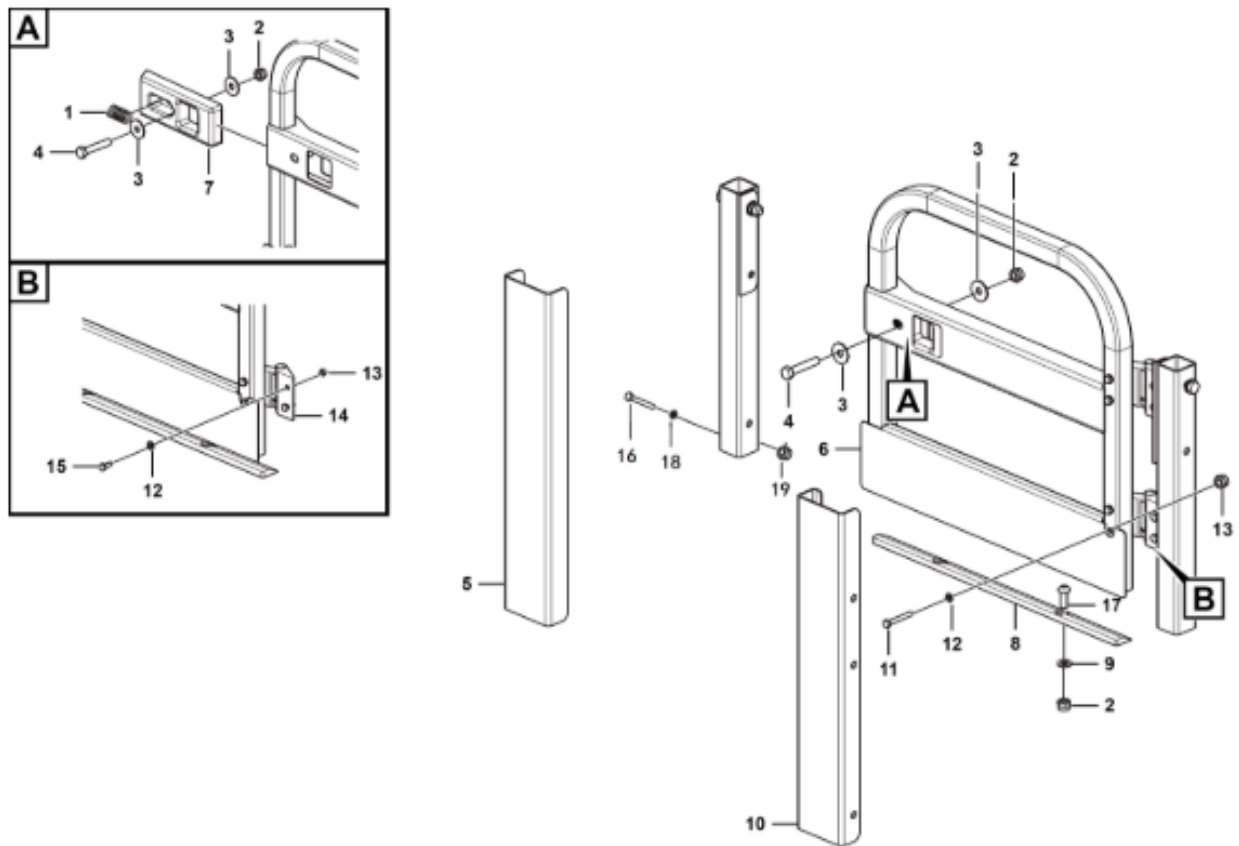

Fig. 3.14 Removal and installation of semi-swing gate
- As shown in Fig. 3.14, remove the fasteners of the fixing part 6 of the door, remove the spring hinge of part 14, and slowly remove the swing gate from the guardrail.